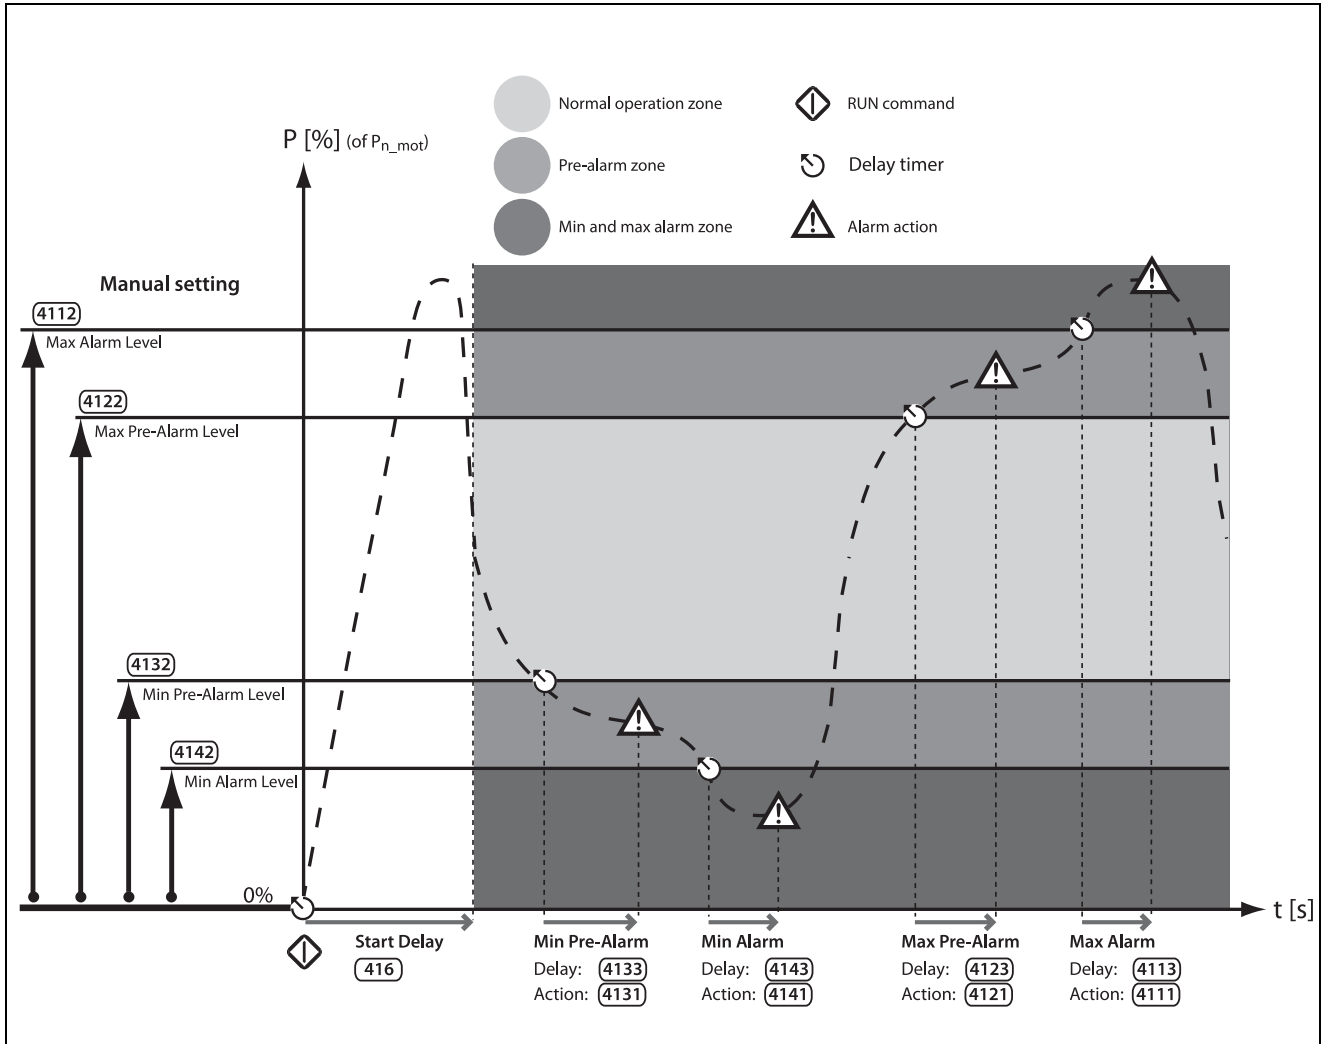

Fig. 63 Manually set load monitor alarm levels.
1. Manual configuration, in which up to four “Alarm Levels” are set directly (Fig. 63).
See Fig. 63. For the manual load monitor settings, the “Alarm Levels” [411] - [414] are set directly as a percentage of the nominal motor power (menu [223]). The actual shaft power is displayed in brackets together with the Alarm Level value to facilitate setting. See example on the right.